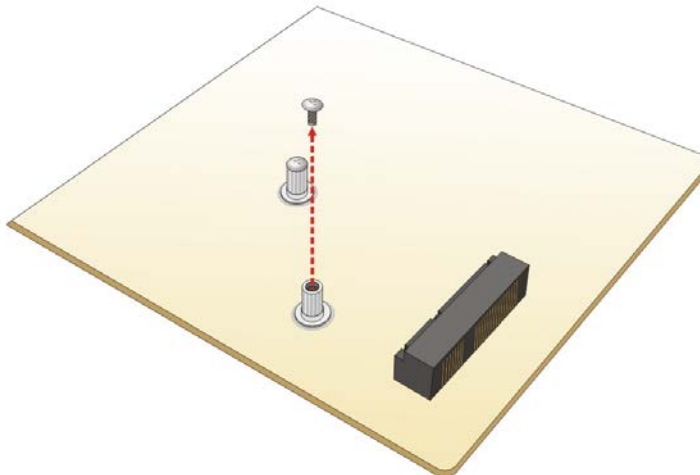

Figure 3-14: Removing the Screw
Step 3: Remove the retention screw as shown in **Figure 3-14**.